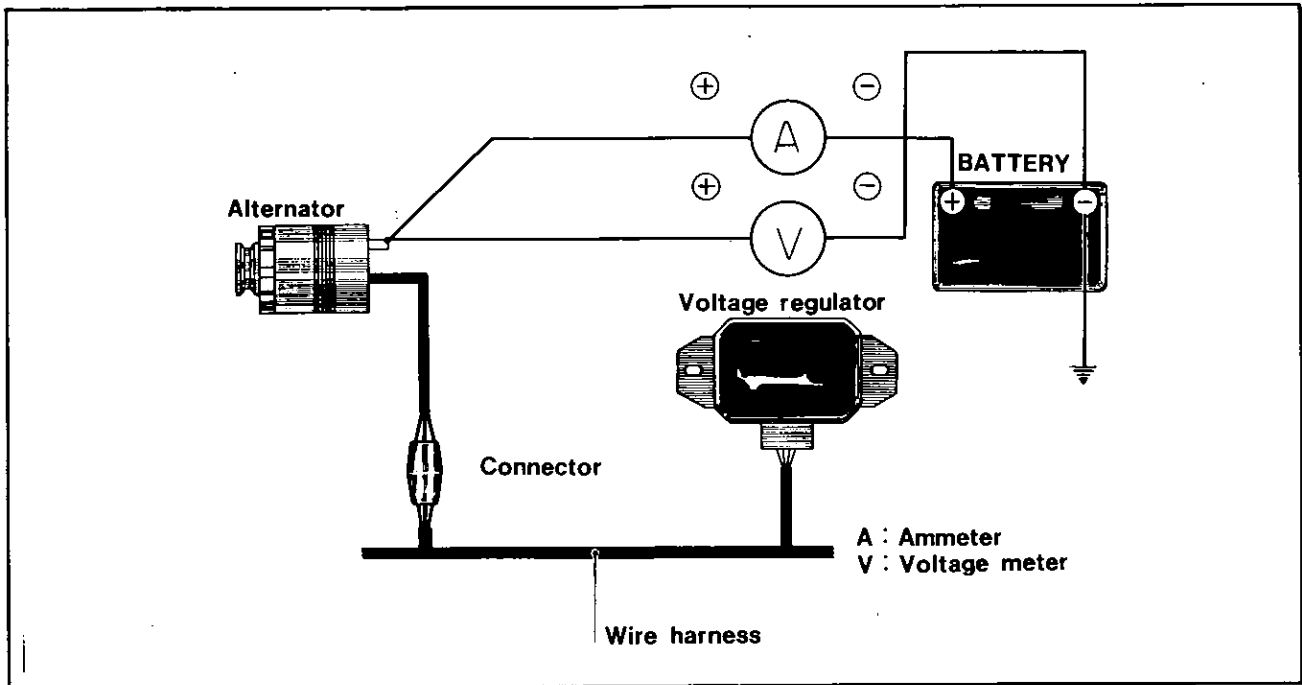

Fig. EE-68 Meter and instrument connection
1. Connect the battery almost charged in full as shown in Figure EE-68.